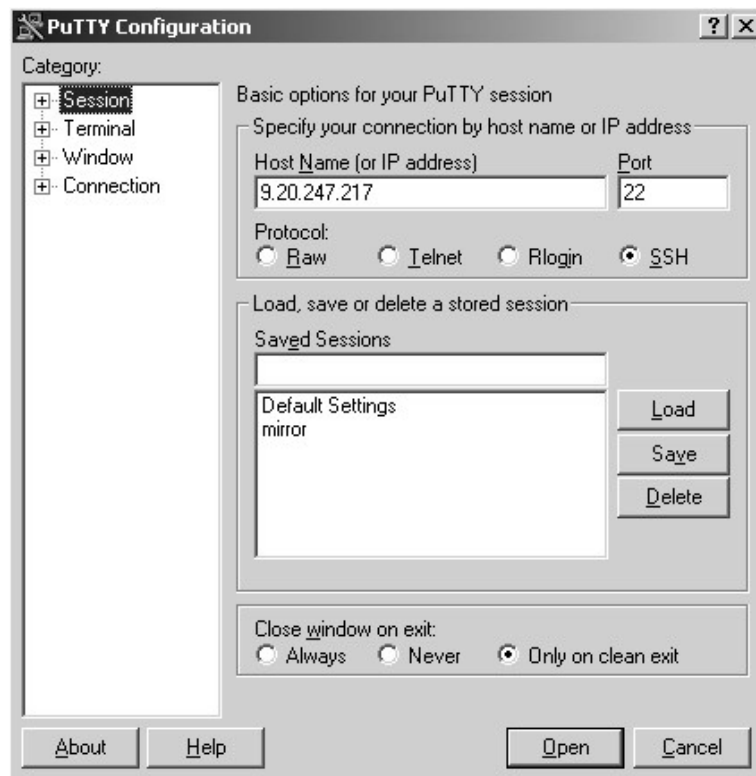

Figure 26. PuTTY Configuration panel –Basic options
2. Make sure **Session** is selected in the category pane. The PuTTY Configuration panel is displayed (see Figure 26).